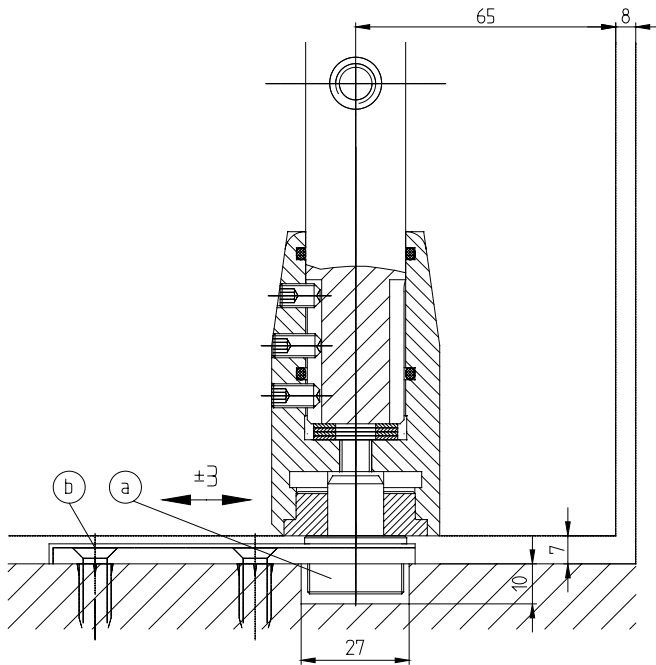

Fig. 3a
3. Mounting of floor spring (BTS) and floor pivot (Fig. 3a+b):